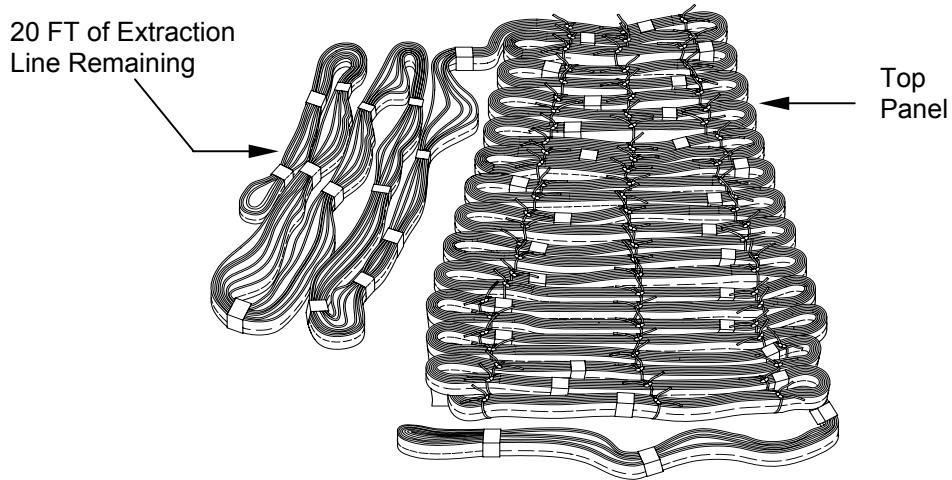

Figure 9. Extraction Line Stowed to Top Panel.
- j. Ensure that the running end of the extraction line extends approximately 20-feet from the top left corner of the top panel. Secure to stow loop on the left side with one turn, type I, 1/4-inch cotton webbing (figure 9).